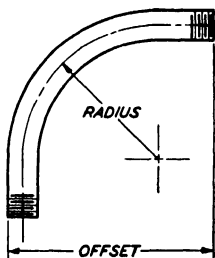

Fig. 1. Diagram Showing Offset and Radius of Conduit Elbow
**Elbows.** While conduit follows closely the regular dimensions of standard gas pipe, see Table 1, there is a marked difference in the elbows, usually called "ells." Gas-pipe ells are castings with short radius, for 90-degree or 45-degree bends, but conduit ells are standard only for 90-degree bends. They are made from conduit tube bent to a long radius to facilitate the pulling in of the wires. This radius varies from nearly six diameters (inside) for 1-inch ells to four diameters for 4-inch ells, (see Table 2, the column headed "offset" being important). Reference to Fig. 1 will show that the offset is greater than the radius, because beyond the completion of the 90-degree arc there is, at each end, an added straight length, roughly equal to 2 inches in the smaller sizes, increasing to nearly 5 inches in the largest size. This must be allowed for in the cutting of a conduit to length for use with an ell that must fit into a fixed dimension. Since the offset is not always the same for all ells of any specific conduit size, it is wise not to cut the conduit until the ell to be used is